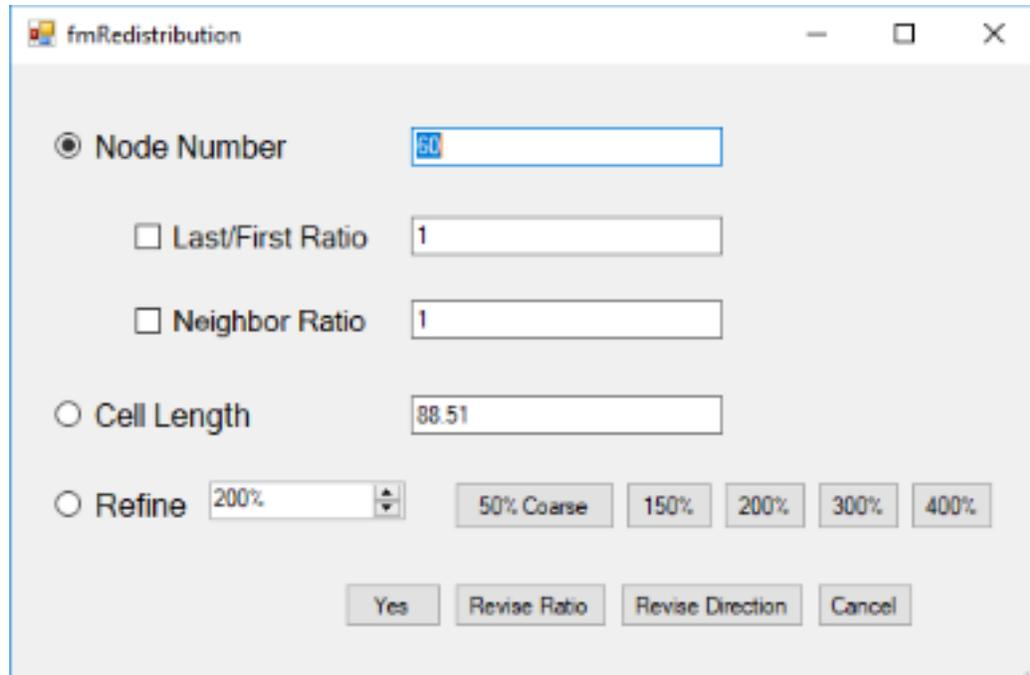

Figure 3-7. Geometry line redistribution form.
3. Click the redistribute button . A form will appear (Figure 3-7).